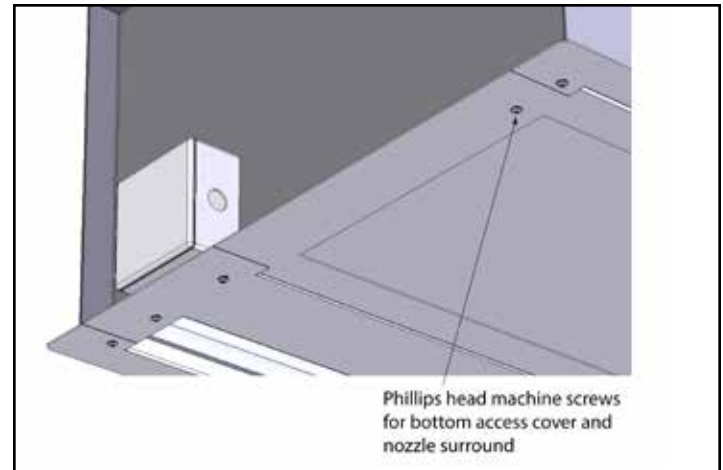

Figure 6
- B. Remove the bottom access cover by removing (2) Phillips head machine screws located at the cover's corners. **See Figure 6.**
2. Remove the bottom access cover by removing (4) Phillips head machine screws located at the cover's corners. **See Figure 6.**
3. If desired, the nozzle surround may be removed to provide more working room. To remove the nozzle surround, remove the (4) Phillips head machine screws from the corners. The Intelliswitch® ribbon cable must also be